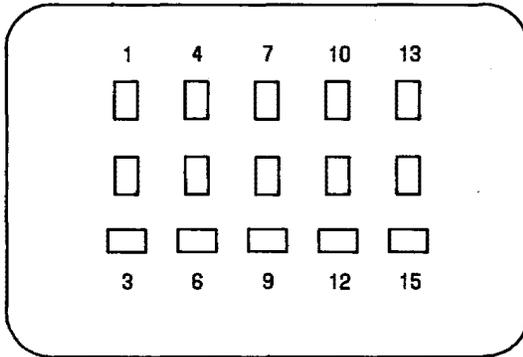

Fig. 1—P1 Plug Wiring Side
- (4) Disconnect the plant control disconnect (J1) jack from the rectifier.
- (5) If equipped with Option -R, connect a jumper between the BAT output terminal and the CBS lead (terminal 15 of the plant control disconnect, P1 plug). See Table A and Fig. 1.
- (6) The rectifier is now in the test mode and may be turned on without disturbing the office load.